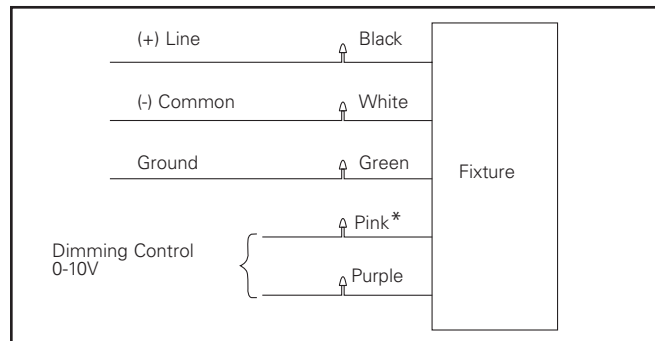

Figure 3.
4. Make wiring connections per wiring diagram. (Figure 3.)
2. Make wiring connections between fixture and slipfitter using supplied outdoor-rated wire nuts. Refer to wiring diagram for power connections. (Figure 3.)
4. Loosen (3) set screws so that the slipfitter will slide easily onto the pole. Make wiring connections between the slipfitter and the pole. Refer to wiring diagram for power connections. (Figure 3.)
2. Make wiring connections between the fixture and trunnion per wiring diagram. Use provided outdoor-rated wire nuts. (Figure 3.)